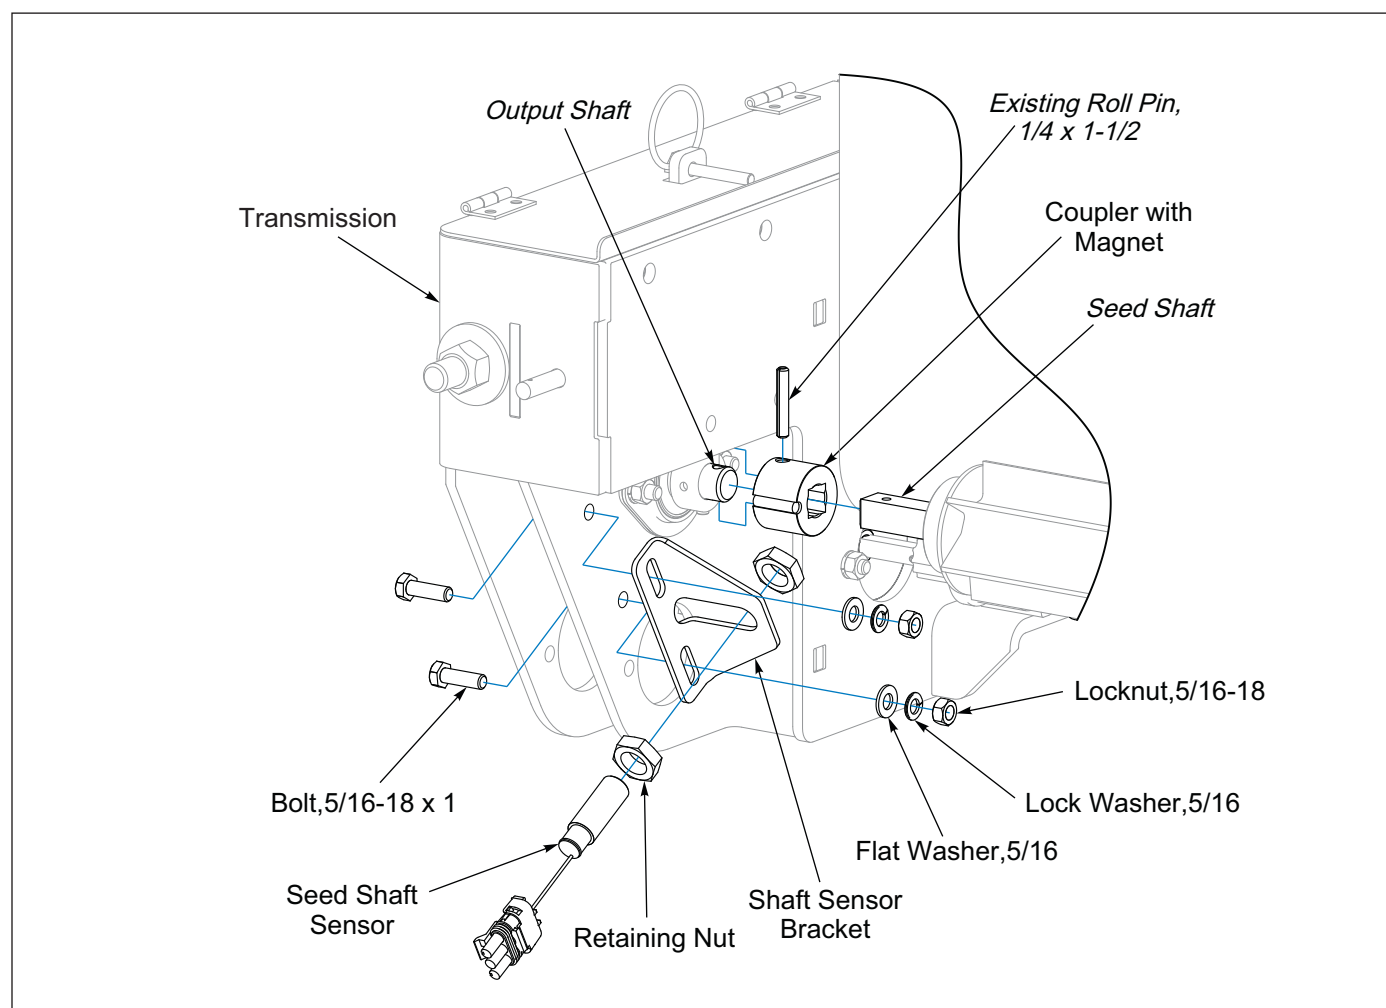

Figure 2-47: Console w/Clutch Control LH Rear Seed Box Seed Shaft Sensor
1. At the Transmission/left side of Seeder remove 1/4 x 1-1/2 Roll Pin from Seed Shaft Coupler. **See Figure 2-47.**